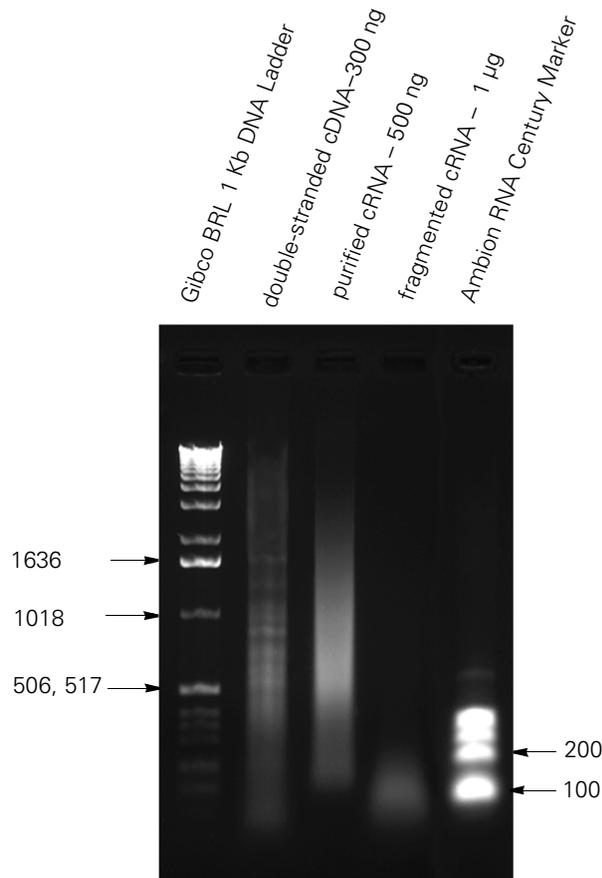

Figure 2.1.1
- As an option, run a denaturing gel to obtain a more accurate estimation of the RNA size distribution. Please refer to Figure 2.1.1 for the typical size distribution of unfragmented cRNA.